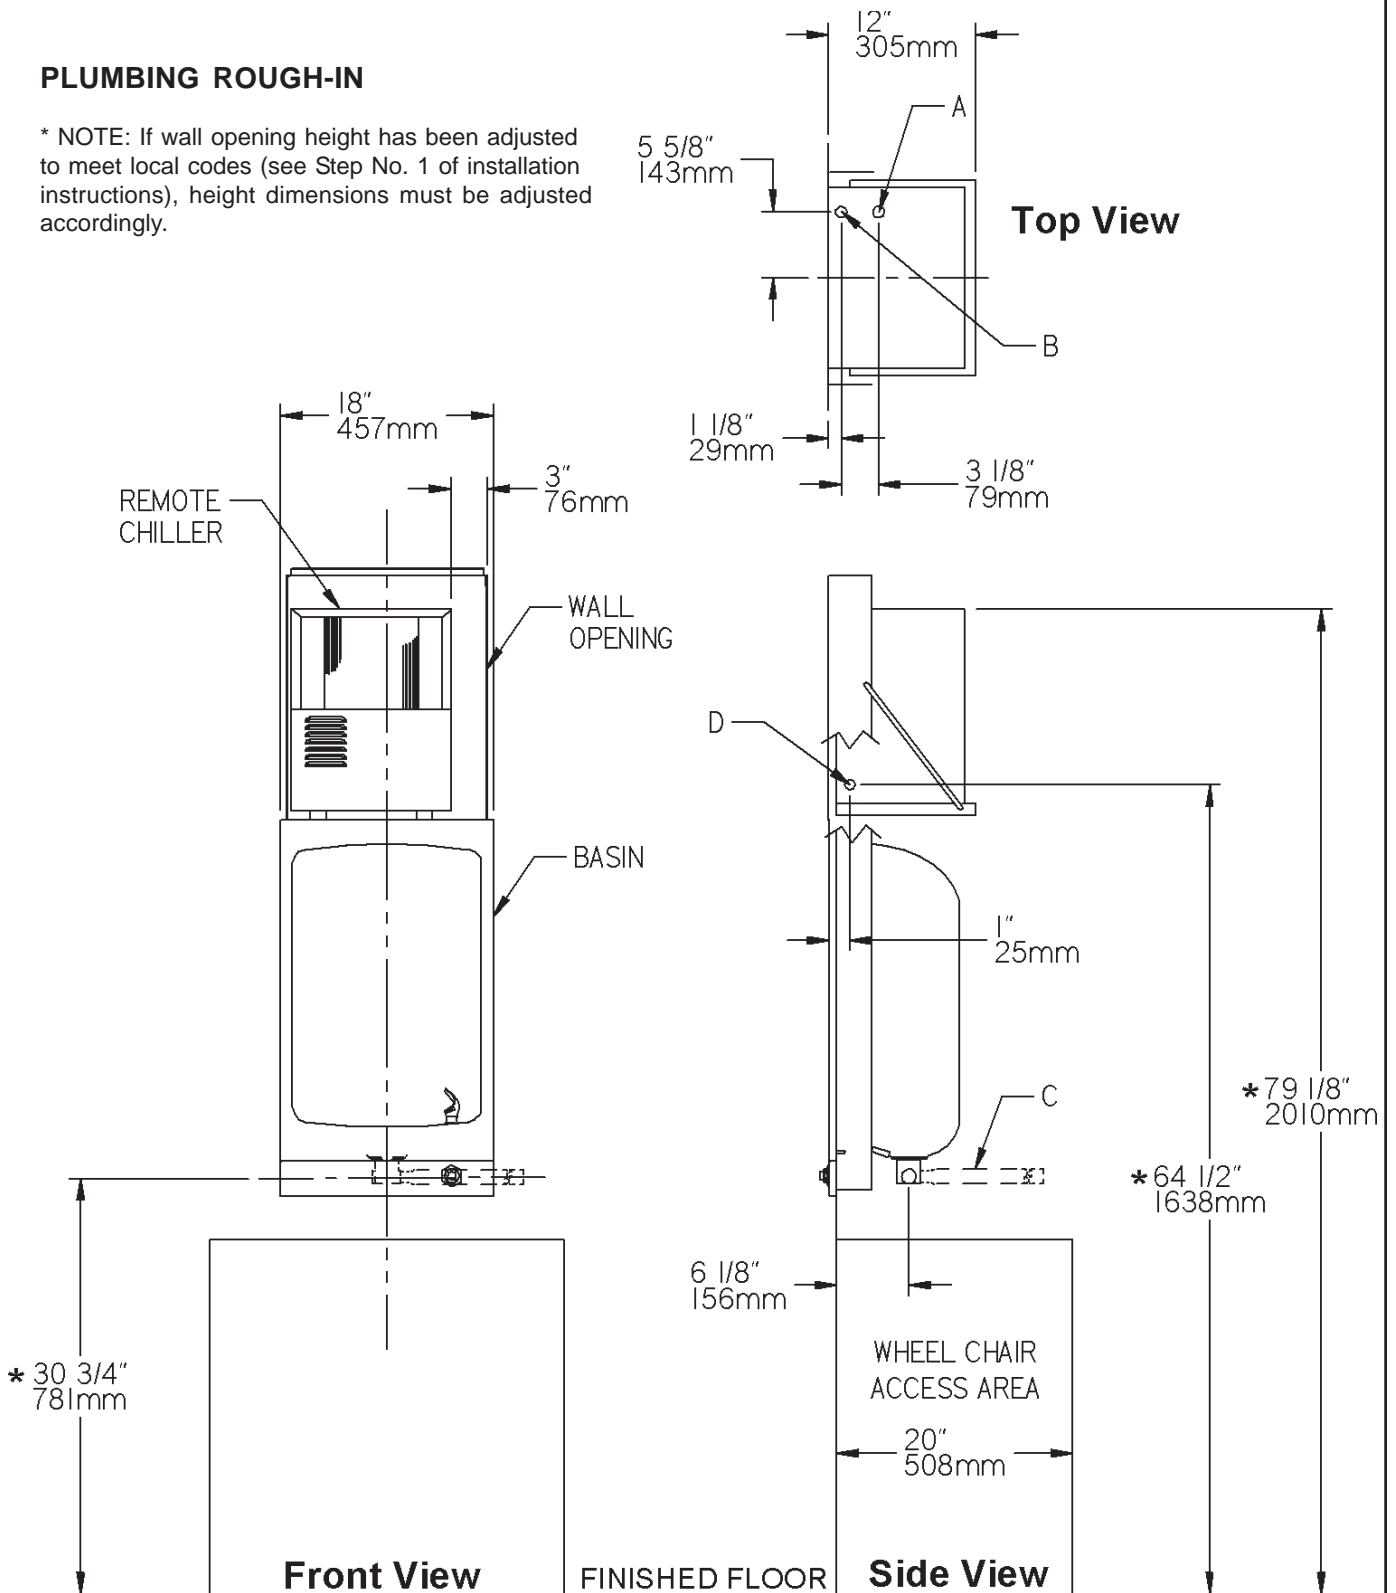

FIG. 4
3. Install rough-in plumbing to fountain. See Fig. 4 for location of supply water inlet to chiller and for location of waste water outlet.
4. Install shelf support rods on wall frame assembly. These rods are located in the chiller shelf package. To install chiller shelf, place shelf on chiller support bracket and attach to support rods. Secure front edge of the shelf to support bracket using two (2) provided 5/16" x 3/4" long bolts and nuts. Tighten securely.
5. Install frame assembly in the wall opening with front edge flush with finished wall face. Secure frame through holes in top and sides to wall support members with 5/16" diameter fasteners (bolts or lag screws) as required by wall constructions. Fourteen (14) bolts/screws are required. **CAUTION: BE SURE THAT FRAME ASSEMBLY IS SQUARED IN ITS LOCATION AND DO NOT USE LESS THAN REQUIRED QUANTITY AND SIZE (DIAMETER) OF FASTENERS.**
6. Install electrical conduit. Figure 4 shows electrical conduit connection location.
1. Install remote chiller. Remove front panel of chiller. **Remove and discard cardboard inner pack from between compressor and side panel.** Slide chiller onto the shelf and position it to the left within the guides on the shelf. (See Fig. 4)